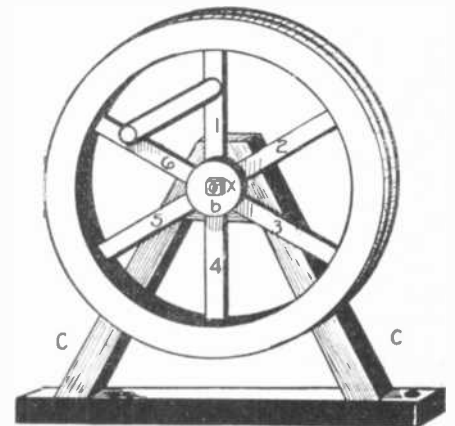
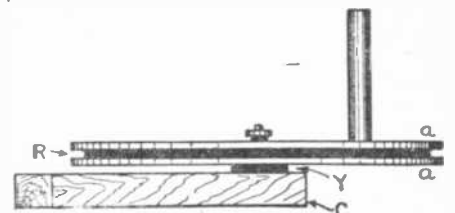

FIG. 16
FIG. 17
Out of thin veneering we cut a wheel with six spokes, Fig. 16, which may have an outer diameter of 12 inches. In that case the inner diameter will be 8 3/4 inches. The spokes are each 1 1/2 inches wide. We then cut two rings or half rings with 12-inch inner diameter and outer diameter of 12 1/2 inches. These rings or half rings (A, A), Fig. 17, we glue on both sides of the drive-wheel, so as to provide a groove (R) to hold the belt. A handle, Figs. 16 and 17, is fastened to one of the spokes. Out of the same wood as the two outer rings we cut two discs (b, b), Fig. 16, which we glue to the hub of the wheel to give the shaft a better bearing.